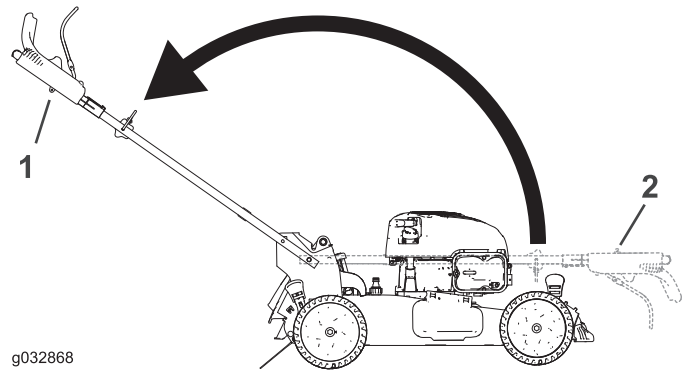

**Figure 5**
2. Install the handle ends onto the mower housing so that the pin attached to each handle bracket is in the lower hole of its related handle end (Figure 5).